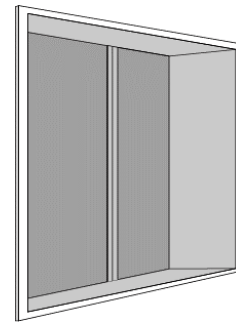

Figure 13: Recessed Window
(2) Windows and Transparency.
- a. Windows shall not be flush with the plane of the wall, but shall be recessed (Figure 13).